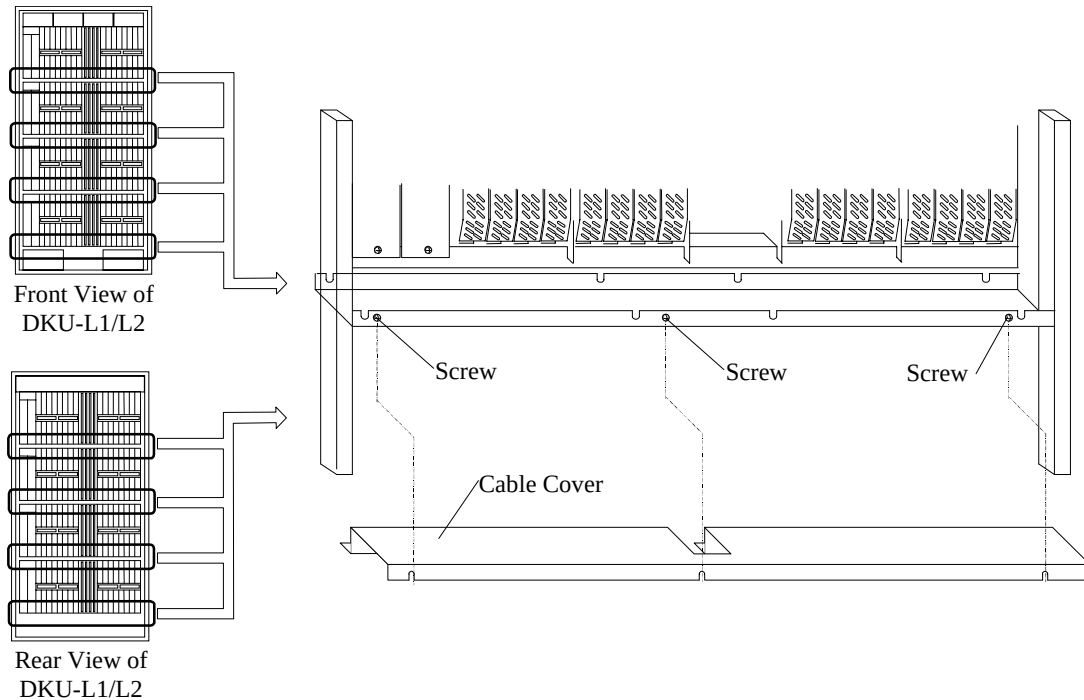

Fig. 3.11.10-9 Removal of Cable Covers
- c. Connect the DEV interface cables to the FSW PCBs in the DKU-L2 frame referring to Fig. 3.11.10-10 through Fig. 3.11.10-13.